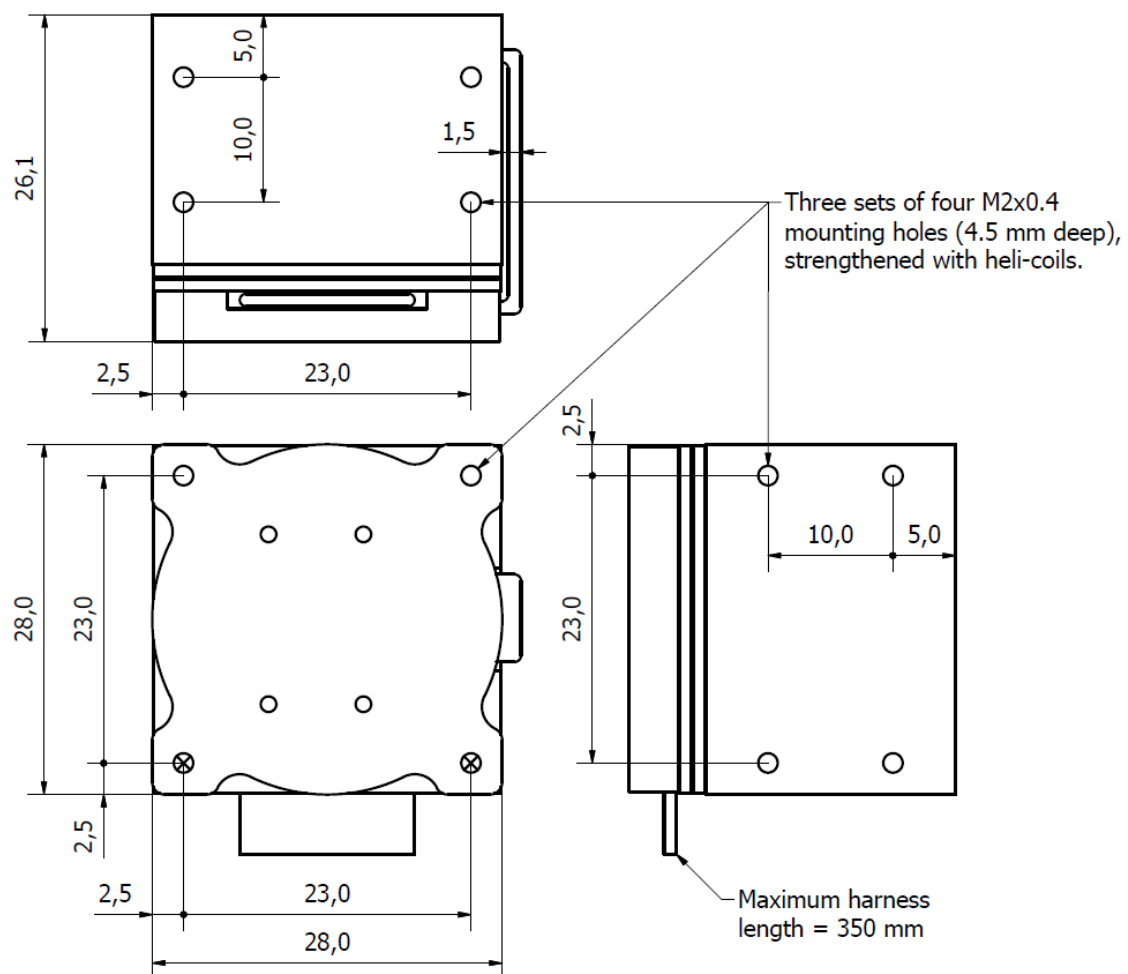

Figure 6 – Small CubeWheel mechanical interface
The Small CubeWheel unit has two sets of four M2 mounting holes on two different facets, as illustrated in Figure 6. The outer dimensions of the Small CubeWheel are 28 mm x 28 mm x 26.1 mm. Note that an additional 1.5 mm is required on one side of the CubeWheel for internal harnesses. The M2 mounting holes will be fitted with A2 (304) stainless steel heli-coils to provide a stronger and more durable thread.